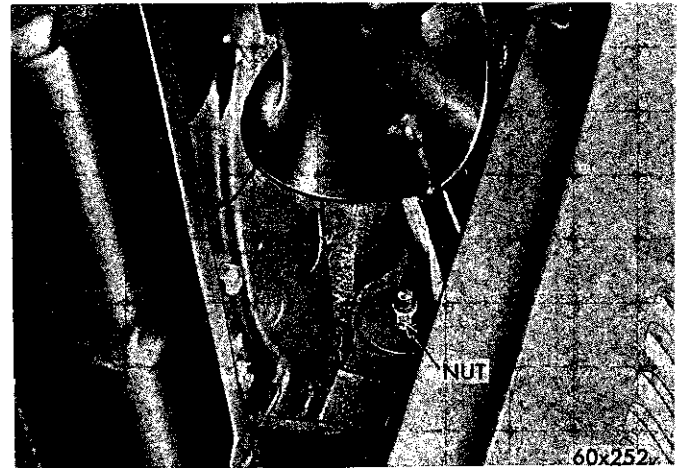

Fig. 9—Radiator Support to Frame Yoke Mounting
(9) Remove the bolts attaching the front end sheet metal to the stub frame yokes (Fig. 9).
(10) Disconnect the radiator yoke from the frame.
(11) Raise the fenders off the mounting studs at the cowl and remove all front end sheet metal, and radiator as an assembly. With all front end sheet metal removed, raise the vehicle on a hoist.
(12) Disconnect the propeller shaft and the transmission push button cable from the transmission. Disconnect the exhaust pipe at the front of the muffler. Disconnect the parking brake cable.
(13) Remove the jacket tube at the instrument panel.
(14) Disconnect the steering gear tube at the lower coupling. Disconnect the coupling from the steering gear by pushing the steering column up into the driver's compartment.
(15) Remove the steering gear arm and the steering gear to frame mounting bolts.